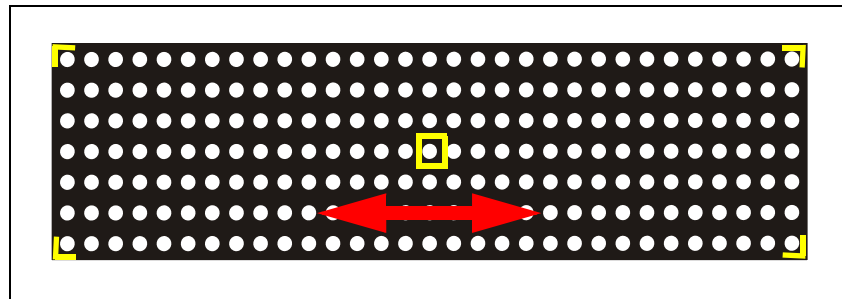

Figure 4-27. Locate X position of calibration plate.
The camera view with a graphical support pattern is shown on the screen. See Figure 4-27.
- When prompted, use the trackball and the graphical support pattern to position the crosshairs on the center of the shown calibration pattern, see Figure 4-27.